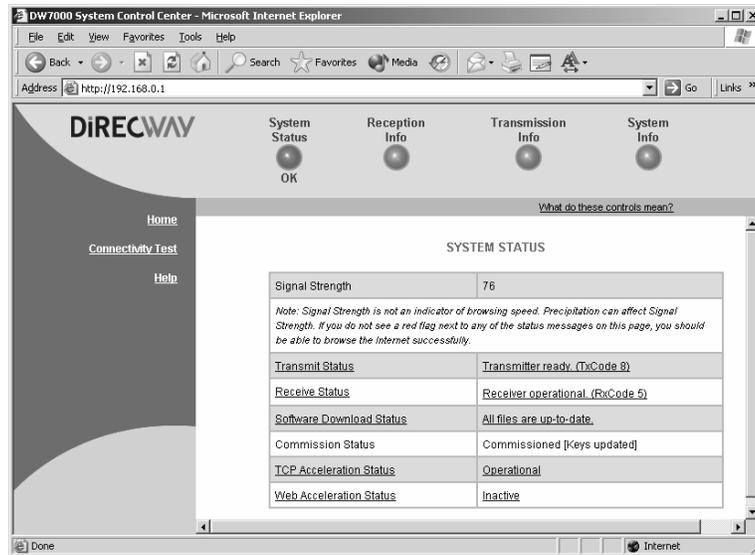

Figure 74: System Status page
2. Click **System Status**. The System Status page appears. See Figure 74.